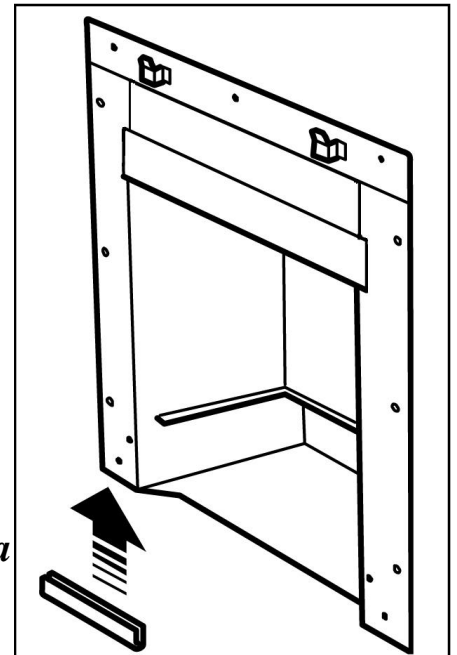

Figure 10. 'U' Seals
2. Fit the two “U” section seals to the bottom edges of the convection box side flanges (See figure 10).